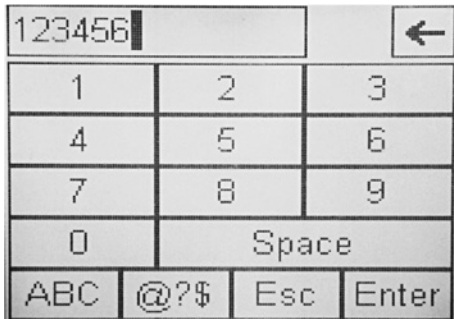

Figure 19 Password entry screen
3. When the keypad entry screen appears, enter the passcode for the desired user access level and then press **Enter** (see figure 19).